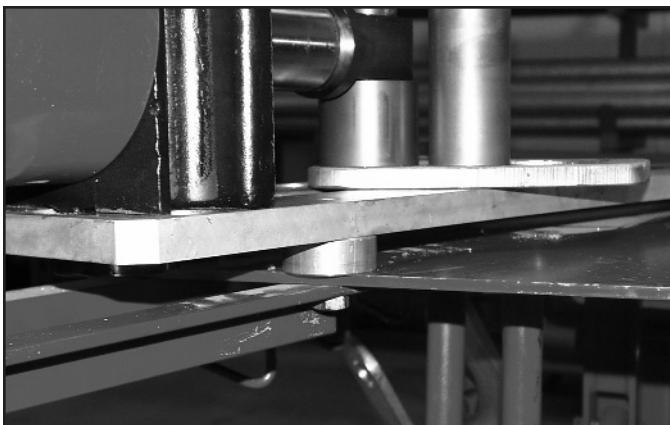

Fig. 3
4. Fasten the lower frame and stabilizer bar to the table. Use two $\frac{1}{2}$ - 13 UNC x $1\frac{3}{4}$ " long bolts installed from the underside of the table. Do not fully tighten the bolts. Figure 3 & 4.